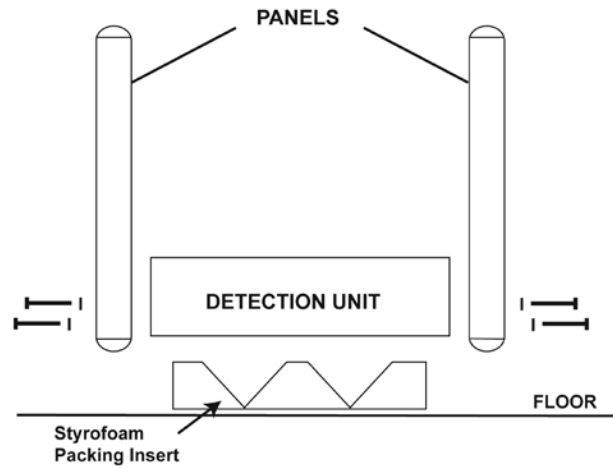

Figure 2-2
3. Place the packing insert on floor as shown in Figure 2-2.